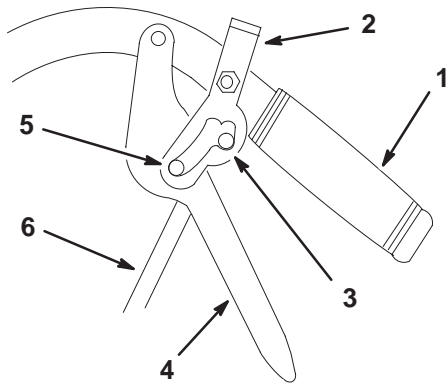

Figure 42
1. Adjust the rod length by releasing the drive lever and removing clevis pin. Rotate the rod in the rod fitting (Fig. 42).
5. Place the hairpin back into clevis pin (Fig. 42).